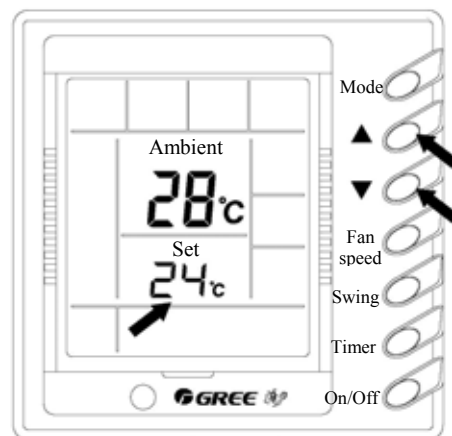

Fig 7
7) Operational mode setting (Fig. 7)